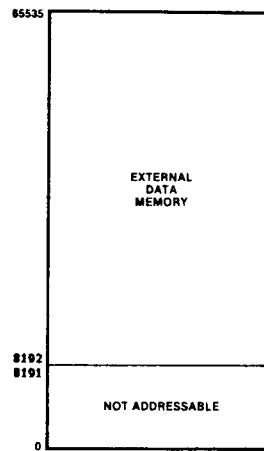

Figure 5. Data Memory Map
**Data Memory.** The Z86C21 can address 56K bytes of external data memory beginning at location 4096 (Figure 5). External data memory may be included with or separated from the external program memory space. DM, an optional I/O function that can be programmed to appear on pin P34, is used to distinguish between data and program memory space.